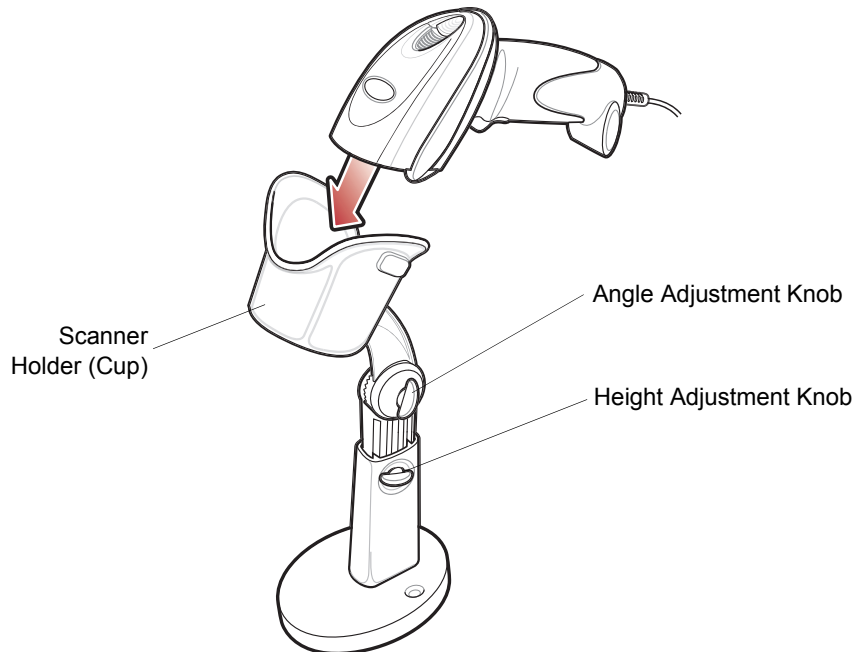

Figure 2-7 Inserting the Digital Imager Scanner in the Intellistand
2. Insert the digital imager scanner in the Intellistand by placing the front of the digital imager scanner into the stand's "cup" (see Figure 2-7).